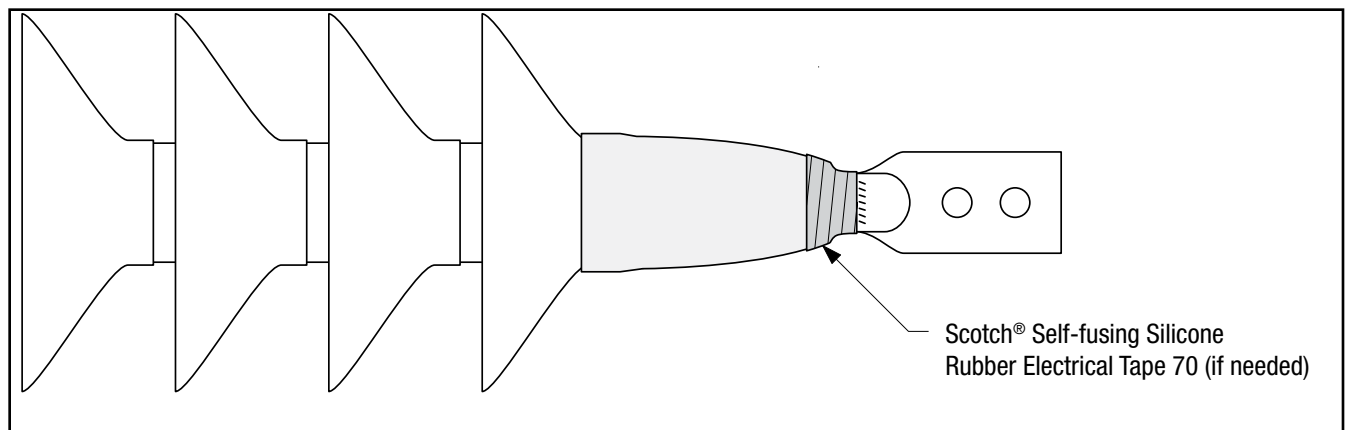

Figure 19
- 6.3 Figure 19 illustrates the appearance following installation of Scotch® Self-fusing Silicone Rubber Electrical Tape 70 (if needed) partially over the the Cold Shrink Silicone Rubber Lug Seal Insulator Assembly tube and the lug barrel.